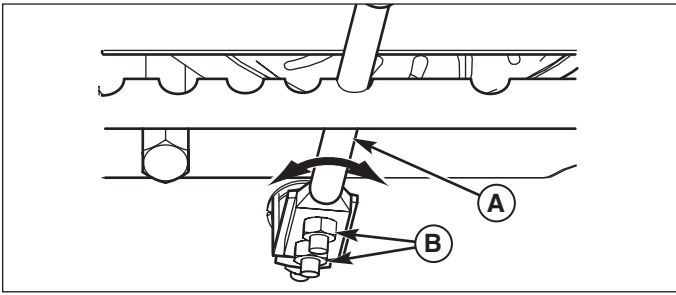

Figure 6. Shift Lever Adjustment
- Loosen shift lever nuts (B, Figure 6), and position the shift speed lever (A) in the lowest forward speed.
- Tighten the 1/4-20 shift lever nuts (B, Figure 6) to 60 lb-in. (6,8 Nm).